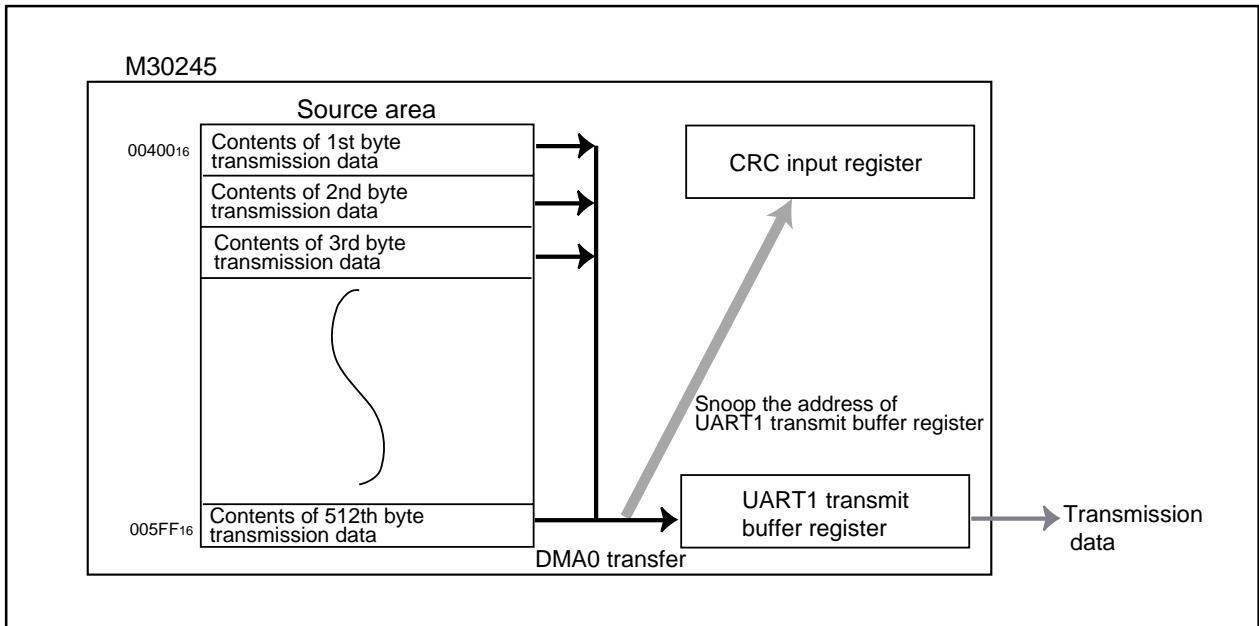
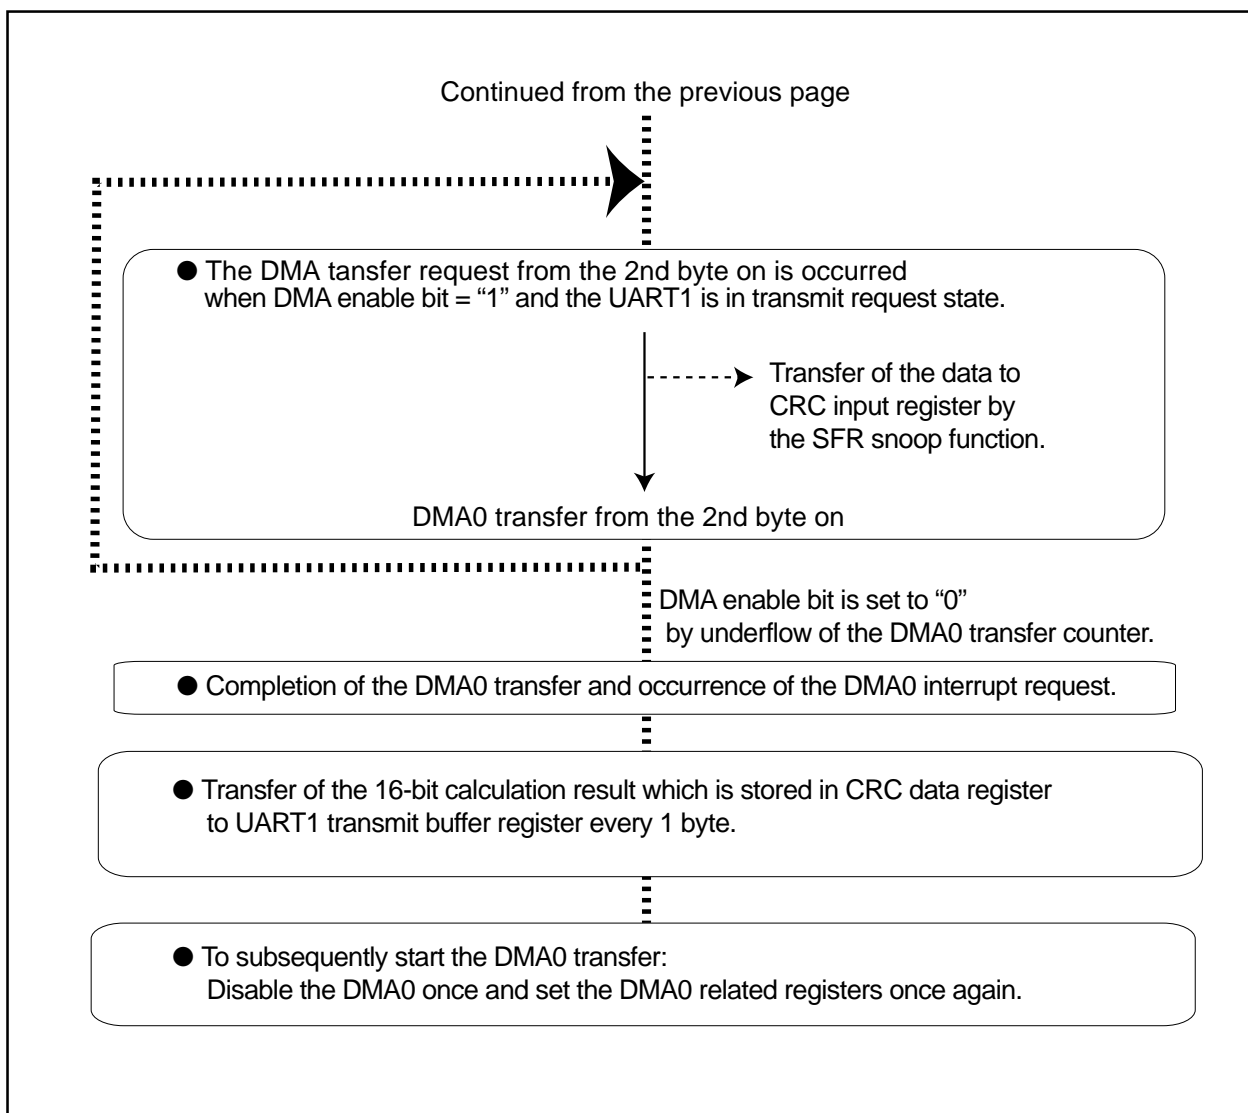

Figure 3.7.1. Block diagram of DMA transfer from RAM to UART and SFR snooping function
Figure 3.7.4. Setting routine (3) of DMA transfer from RAM to UART using SFR snooping function
**Overview** The M30245 group, by use of DMAC, transfers data from the internal RAM to the UART1 and the result is transferred to the UART1 by use of SFR access snoop function. The block diagram is shown in Figure 3.7.1 and the setting routine is shown in Figure 3.7.2 to Figure 3.7.4.